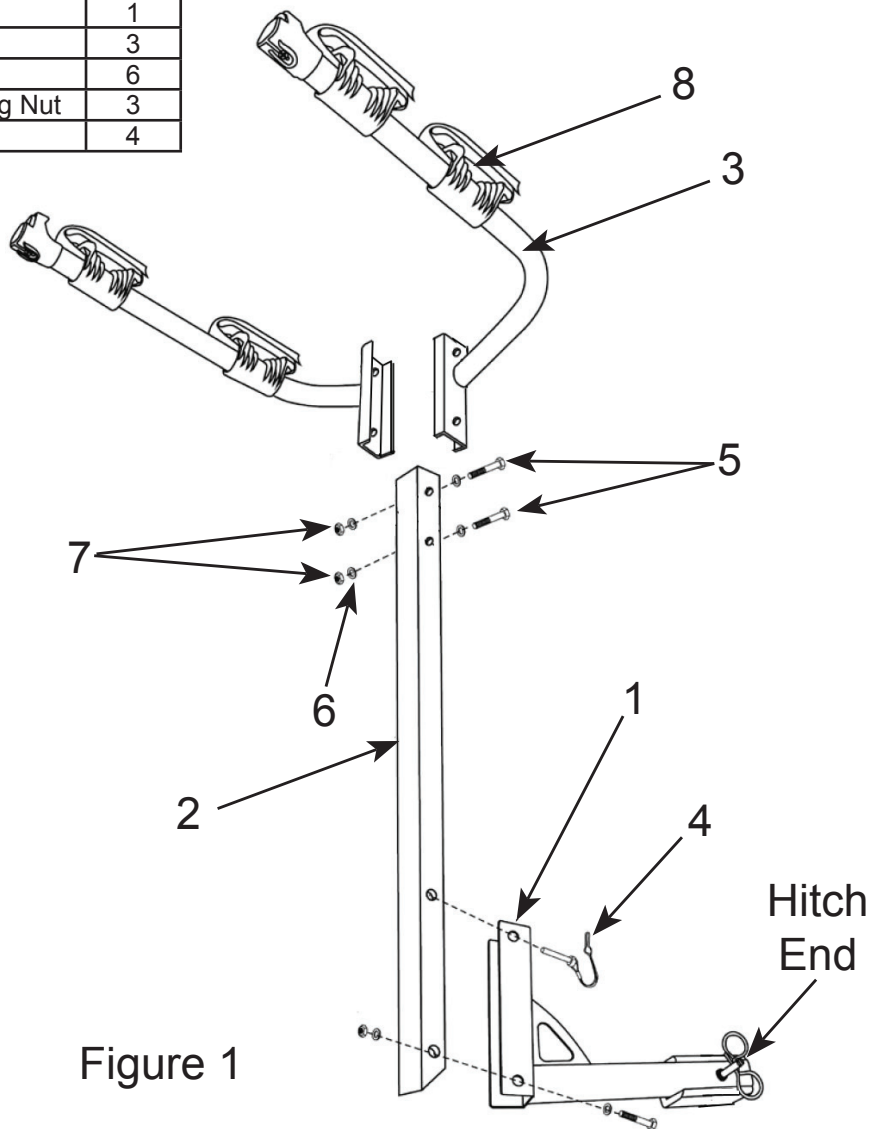

Figure 1
1. Slide the Hitch End of the Linker (1) into the vehicle's trailer hitch and lock with a steel pin. See Figure 1.
2. Install the Support Column (2) to the upright part of the Linker (1) and secure with a Bolt (5), Nut (7) and two Washers (6), through the bottom hole and the Hitch Pin (4) through the upper hole. When the back hatch or tailgate has to be accessed, pull the Hitch Pin (4) out and swing the rack downward, pivoting at the bolt directly below the Hitch Pin (4).
3. Hold the two Bike Rack (3) sections over the upper end of the Support Column (2) aligning the bolt holes. Secure this with two Bolts (5), four Washers (6) and two Nuts (7).